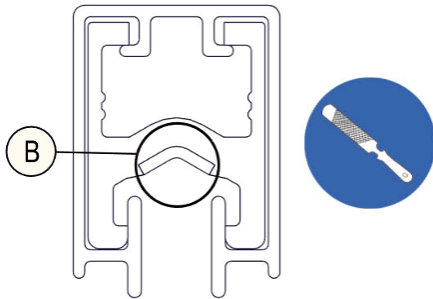

Fig. 47: Deburr conductor bar and insulation profile
- A sharp edge or burr can quickly wear away the sliding contacts. Therefore, deburring at the ends of the contact surface (B in Fig. 47) is necessary!